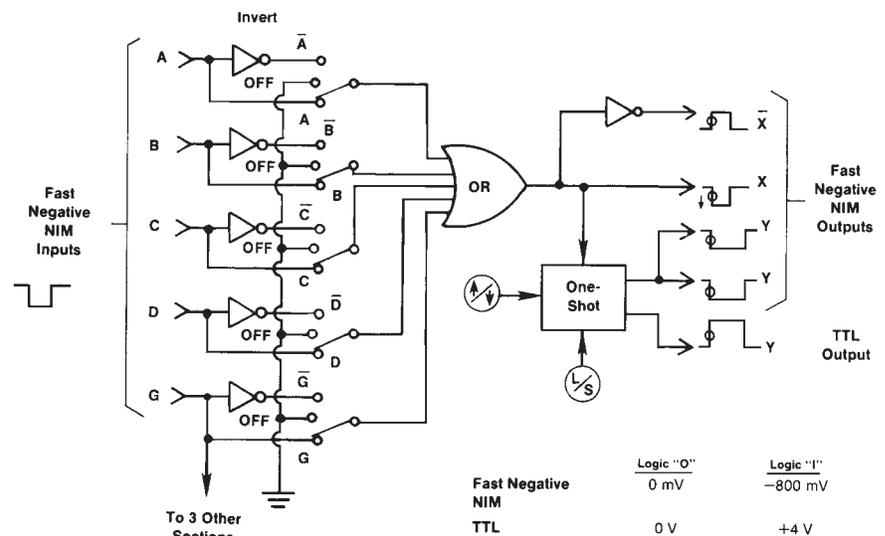

Fig. 1. Block Diagram of the Model CO4020 Logic Unit.
Each of the four inputs (A, B, C, and D) accepts NIM fast negative logic pulses. Front-panel, three-position slide switches select the logic requirements separately for each input. The various combinations of logic functions that can be implemented are illustrated in Fig. 1 and in the specifications for the control switches.
**Input Logic Switches (A/OFF/ $\bar{A}$ , B/OFF/ $\bar{B}$ , C/OFF/ $\bar{C}$ , D/OFF/ $\bar{D}$ , AND G/OFF/ $\bar{G}$ )** As defined in Fig. 1, these switches select variations of the following basic logic functions. In the OFF position, the state of that input is ignored. With switches set to the A, B, C, D, and G positions, the module performs the OR function at the  $\bar{X}$  output.
See Fig. 1 to determine other possible logic combinations.